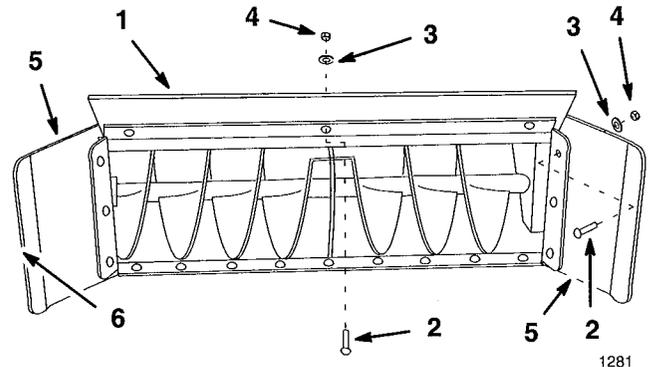

Figure 2
3. Rotate the housing down and position top plate outside top flange of housing. Secure with (3) 3/8 x 1" carriage bolts (heads on inside) (3) 3/8" washers and (3) 3/8" lock nuts (Fig. 2).
4. Position side plates outside housing side flanges, with cutting edges parallel to side of housing, and secure with (6) 3/8 x 1" carriage bolts (heads on inside), (6) 3/8" washer and (6) 3/8" lock nuts (Fig. 2).